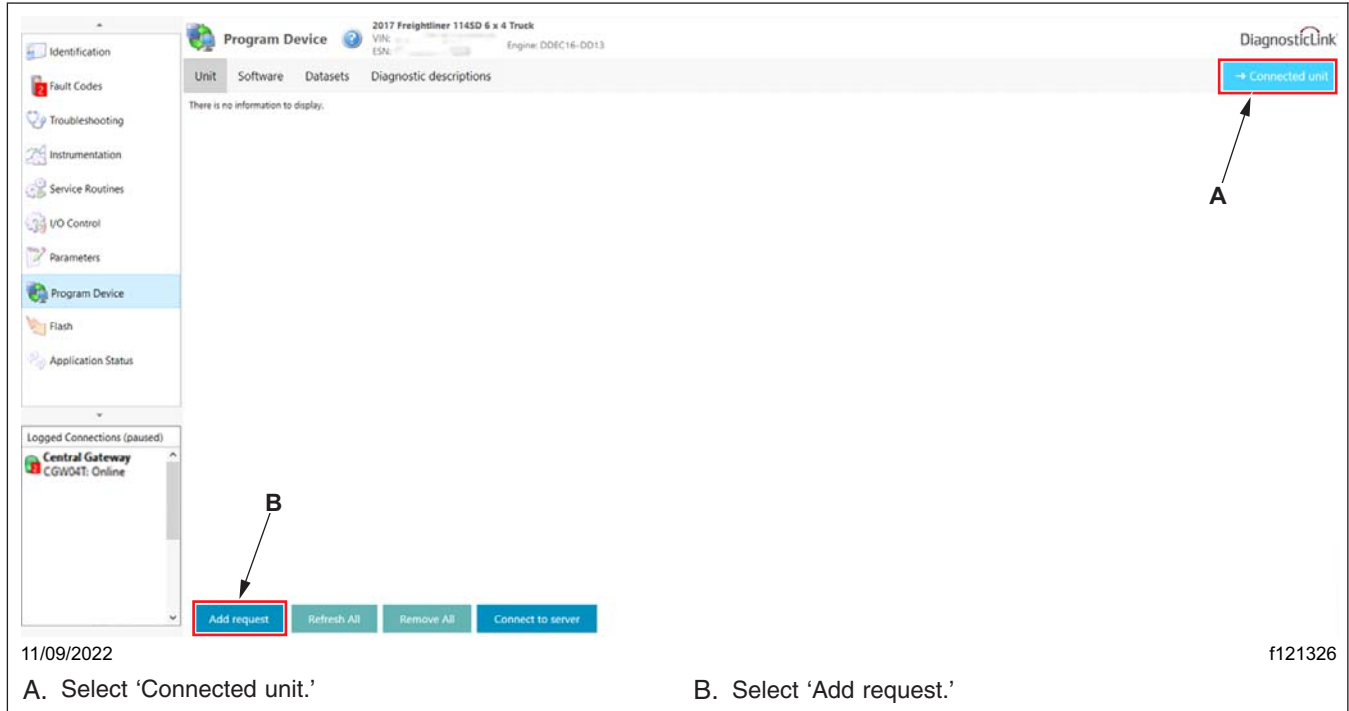
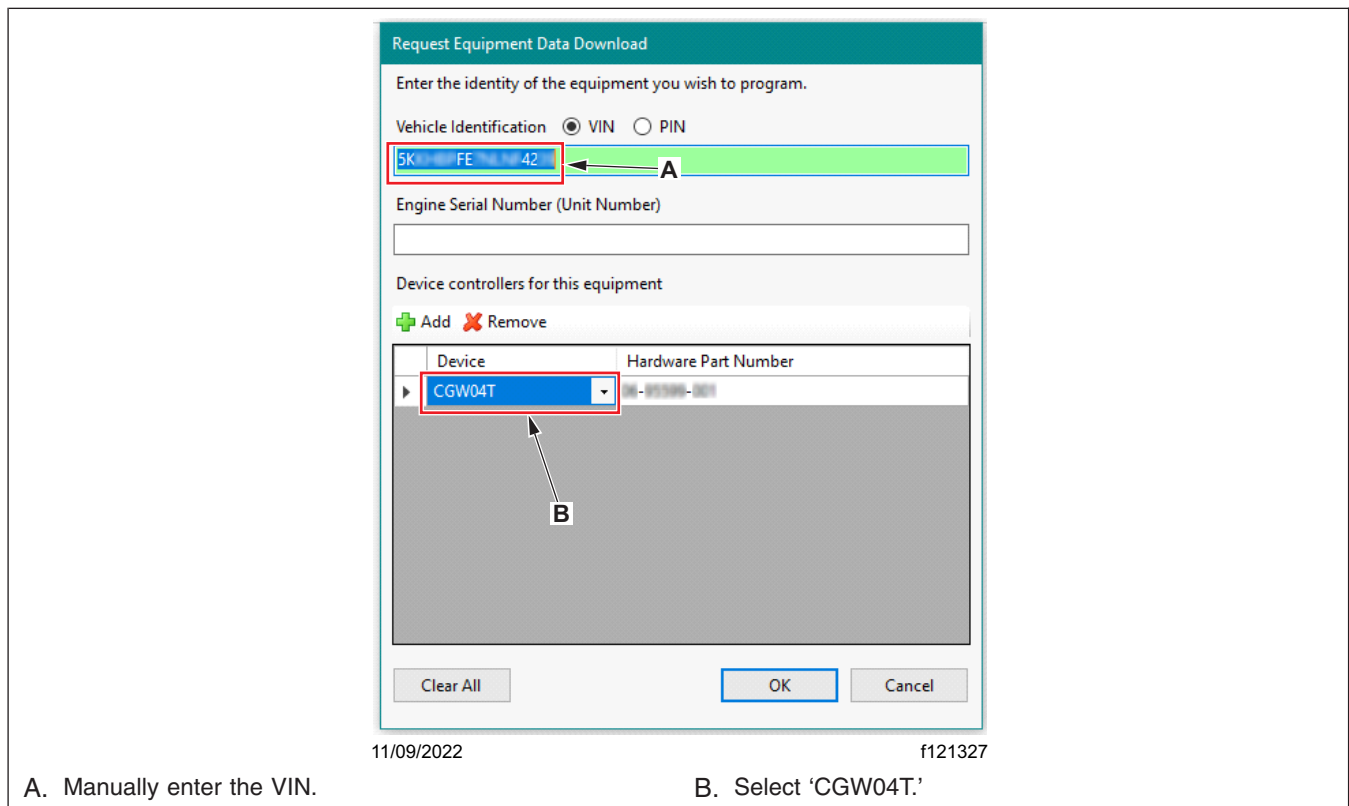

Fig. 7, Selecting Connected Unit
Fig. 8, Manually Connecting to DiagnosticLink
12. To connect DiagnosticLink to the connected vehicle, select 'Connected unit.' See Fig. 7.
13. To manually connect DiagnosticLink to the vehicle, select 'Add request,' shown in Fig. 7. Manually enter the VIN, and select the device to be added. Select 'OK.' See Fig. 8.